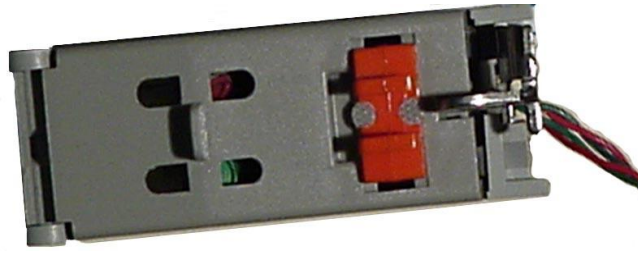

Figure 2
- Open the Customer Line Module as shown in Figure 2 & 3. Squeeze the orange tabs and lift the cover open.